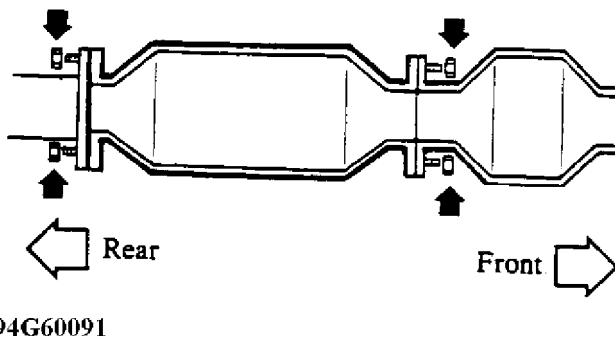

Fig. 25: Tightening Flange Nuts
13. Tighten the flange nuts to specified torque. See Fig. 25.